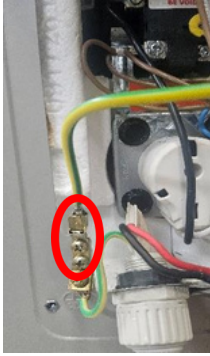

Fig 27
25. Clip earth cable from 6pin plug to earth terminal on the water heater jacket (refer Fig 27).